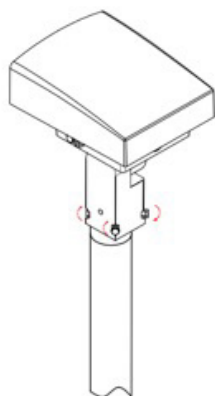

FIG. 11
2. Tighten four screws to fix the knuckle (FIG.11).